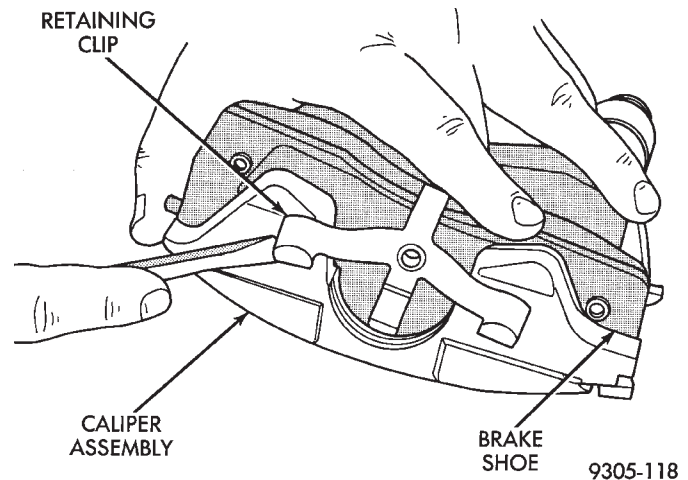

Fig. 34 Removing Outboard Brake Shoe
(1) Remove caliper as described in Front Disc Brake Caliper Removal and Installation, found elsewhere in this section of this service manual.
(2) Remove the shoe retractor clips from between the shoes.
(3) Remove outboard brake shoe, by prying the shoe retaining clip over raised area on caliper. Then slide the brake shoe off the caliper (Fig. 34).